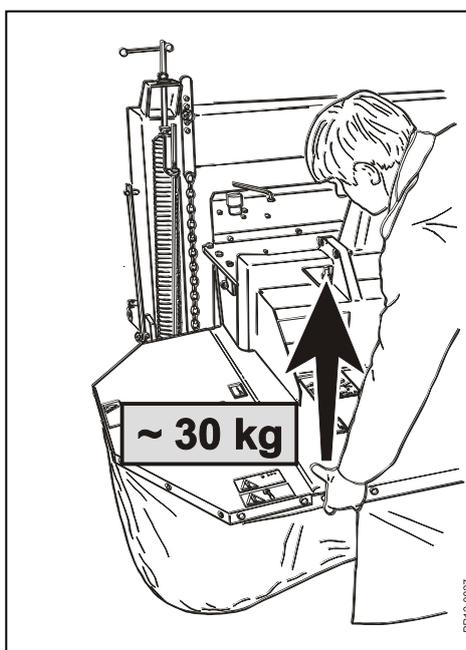

Fig. 3-8
- Fig. 3-8** We recommend that the springs are tightened so much that the lifting capacity over the cutterbar is **approx. 30-50 kg in each side.**